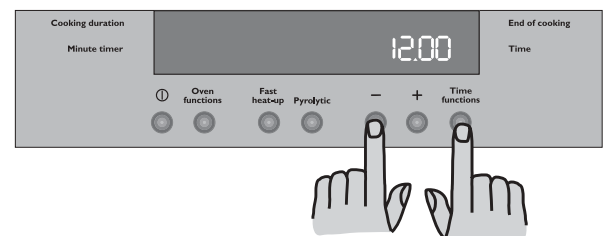

Fig. 18
- 2) Press buttons Time functions and “-” at the same time. A short acoustic alarm will be heard and the indication 12:00 will appear in the display (Fig. 18).